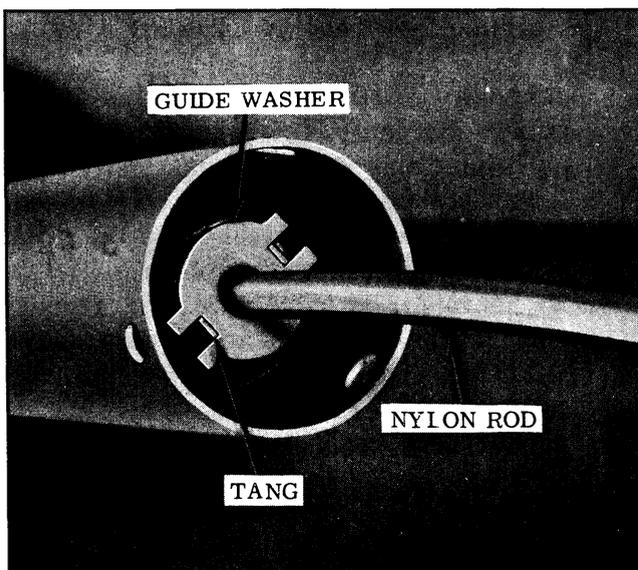

Fig. 15-10 Guide Washer Position
- A. Assemble guide washer over nylon rod and position slots of washer on tangs on lower section of mast assembly. (See Fig. 15-10)